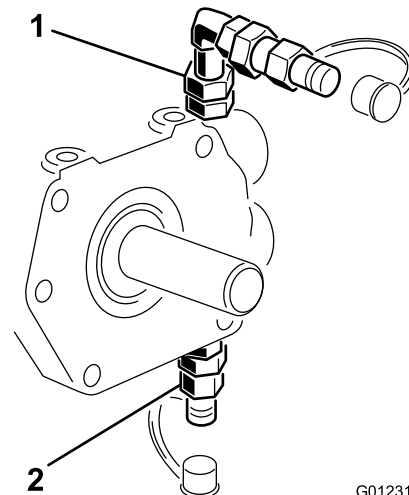
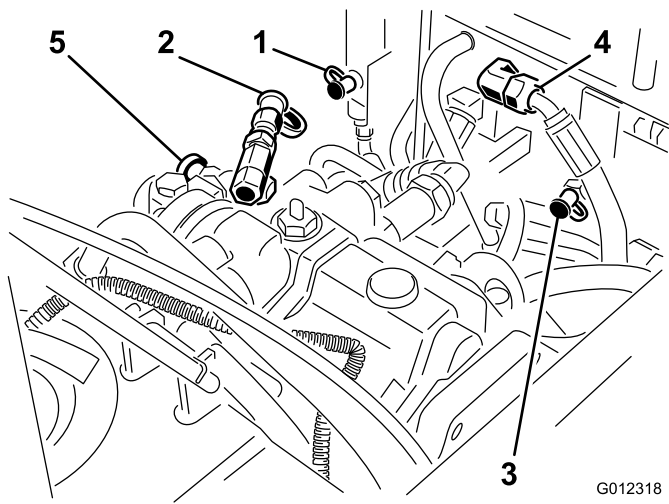

Figure 46
Figure 47
The test ports (Figure 46 and Figure 47) are used to test the hydraulic circuits. Check all pressures when engine is at full speed and hydraulic oil is at normal operating temperature. Contact your local Toro distributor for assistance.
- Traction Forward and Reverse (Figure 46) (behind the wheel motors) has a normal relief setting of approximately 5300 psi and 50 to 150 psi charge pressure. Use a gauge with 7500 to 10,000 psi full scale rating.